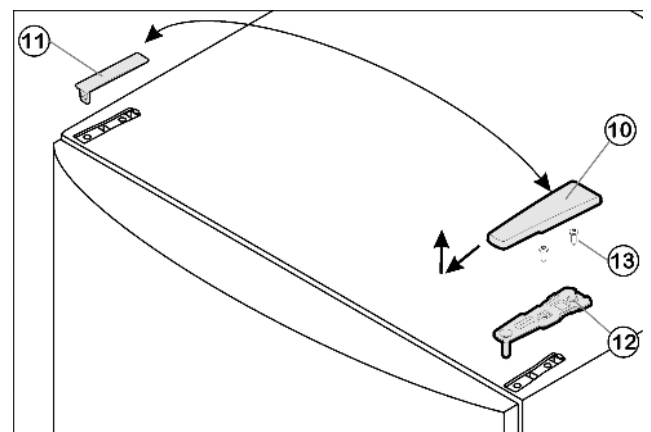

Fig. 5
- ▶ Pull off the cover Fig. 5 (10) forwards and upwards.
- ▶ Lift off the cover Fig. 5 (11).
- ▶ Unscrew the upper turn hinge Fig. 5 (12) (2x Torx® 25) Fig. 5 (13) and lift it off.
- ▶ Insert the upper turn hinge Fig. 5 (12) in the door on the new hinge side.
- ▶ Screw the upper turn hinge Fig. 5 (12) firmly into place (with 4 Nm) (2x Torx® 25) Fig. 5 (13). Possibly make preliminary holes with a bradawl or use a cordless screwdriver.
- ▶ Snap the cover Fig. 5 (10) and cover Fig. 5 (11) into place at the opposite side.